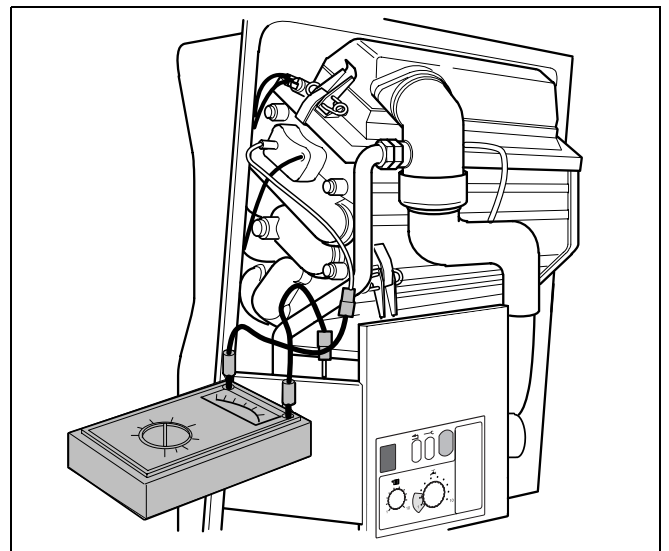

fig. 39 Measuring the ionisation current
- Loosen the plug-and-socket connector of the monitoring cable and connect the measuring device in series (fig. 39). Select on the measuring device the  $\mu\text{A}$  direct current range. The measuring device must have a resolution of at least 1  $\mu\text{A}$ .